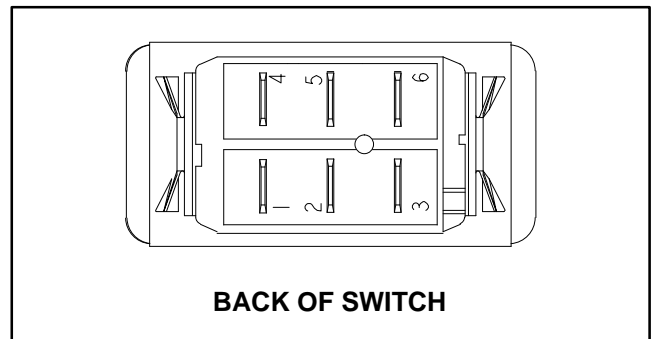

Figure 91
3. With the use of a multimeter (ohms setting), the switch functions may be tested to determine whether continuity exists between the various terminals for each switch position. The switch terminals are marked as shown (Fig. 91) and the circuitry of the switch is shown in the chart (Fig. 92). Verify continuity between switch terminals.